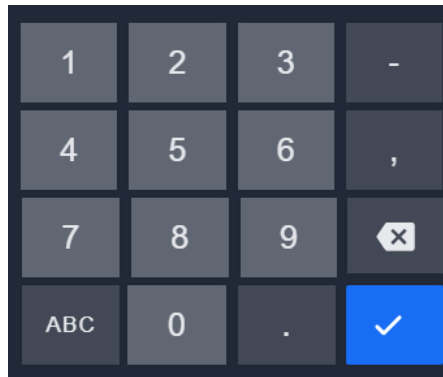

Fig. 1.26
2. Tap the PIN field and enter your four-digit PIN using the pop-up keypad (Fig 1.26).